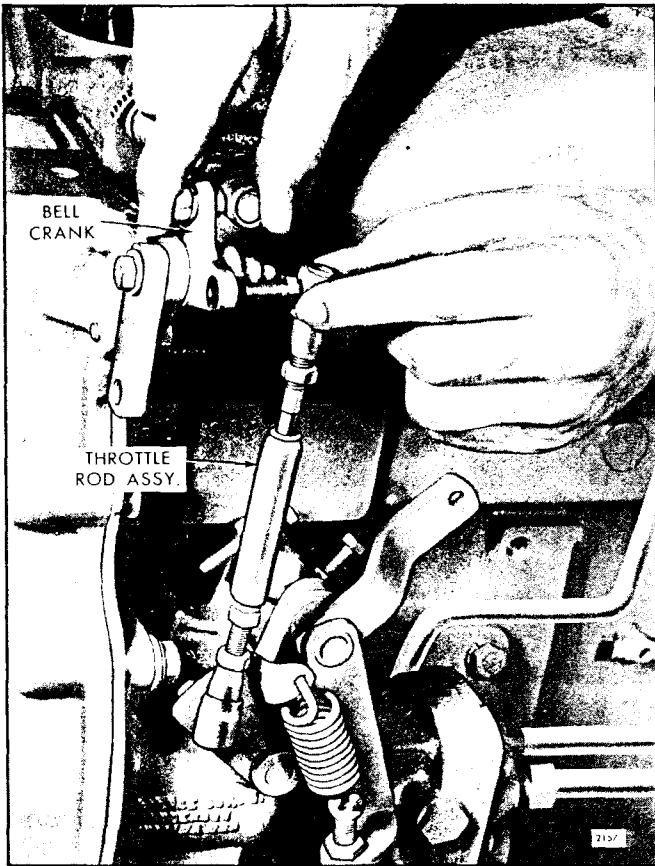

Fig. 3 - Adjusting the Throttle Rod Assembly
3. Hold the injector control racks in the full-fuel position, then adjust the length of the throttle rod assembly, by turning the ball and socket on the throttle rod, until it can be connected to the bell crank as shown in Fig. 3, without compressing the spring within the rod more than $1/32"$.